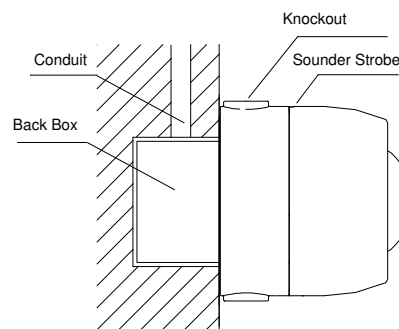
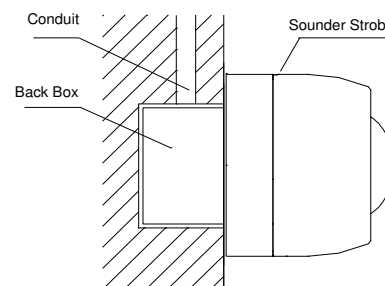
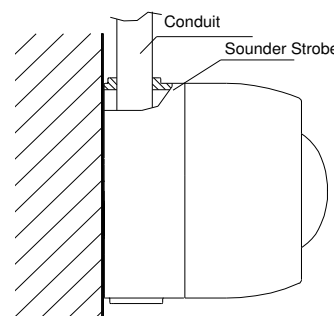

Fig. 3a
Fig. 3b
Fig. 4
- ◇ When surface mounted, the sounder strobe should be placed 0.2m from the ceiling for normal space height. When the conduit is embedded, the base can be mounted on the back box. When the conduit is surface mounted, the deep base should be adopted. Knock the knockout hole, and connect the conduit with it. The mounting hole spacing and mounting direction are shown in Fig. 2. Mounting method is shown in Fig. 3a and Fig. 4. The conduit must be embedded when the shallow base is used, as shown in Fig. 3b.